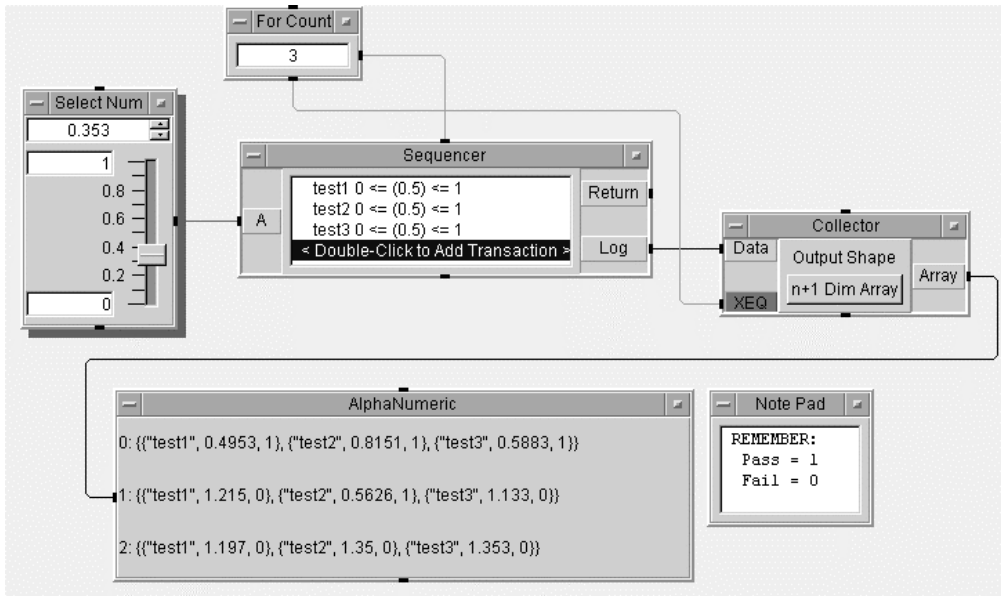

Figure 16.2. Analysis of three runs of Sequencer Data
14. Save your program again; run this program. See Figure 16.2.